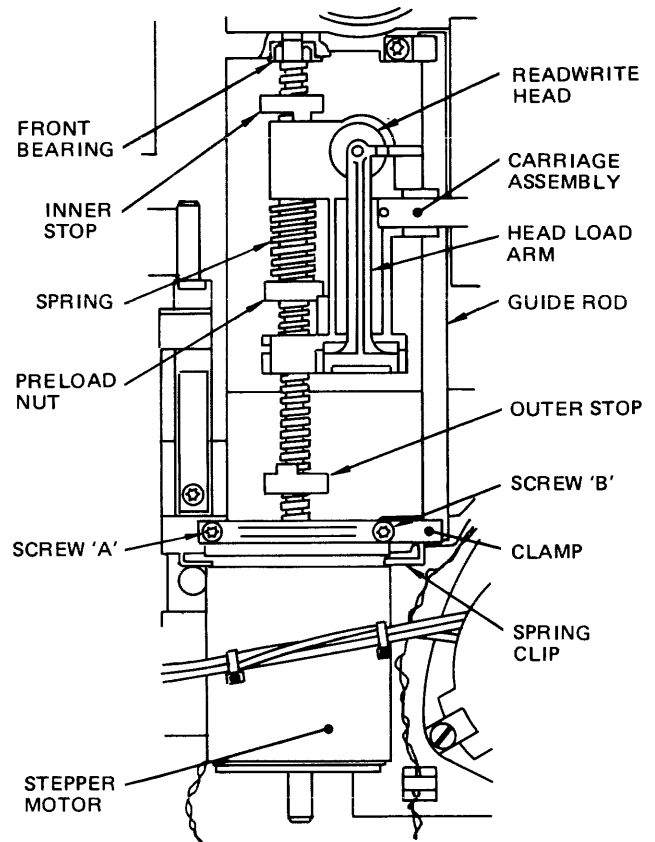

Figure 1-3. Stepper Motor Replacement
- d. Remove screw 'A', screw 'B' and clamp, in that order. Pull lead screw out of bearing in deck and remove entire motor/carriage assembly. Refer to Figure 1-3.